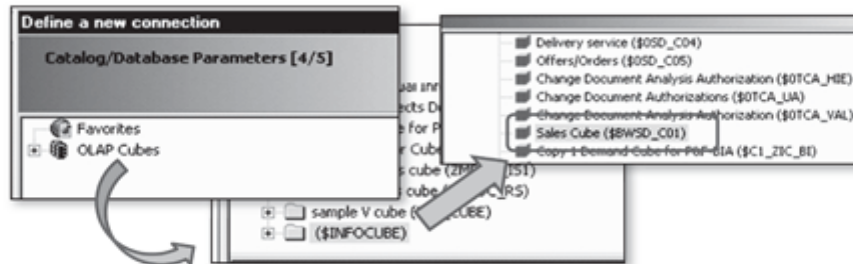

Figure 13.8 Select DataSource
- After the connection is validated, the screen displays a list of all of the available data providers (cubes and queries) under the OLAP Cubes folder in the SAP NetWeaver BW system. All of the InfoCubes are stored in one folder, \$INFOCUBE. To select a cube (for our example, BWSD_C01), follow the path OLAP CUBES • (\$INFOCUBE) • BWSD_C01 (Figure 13.8). Click on Next after selecting the cube.